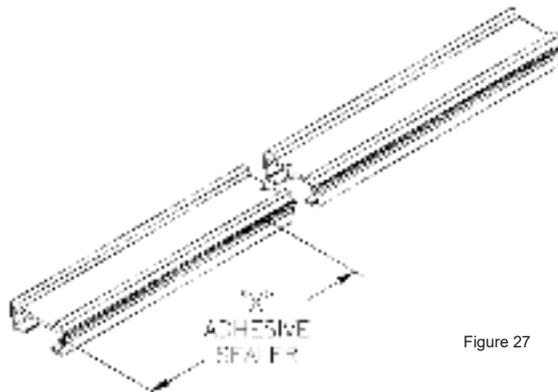
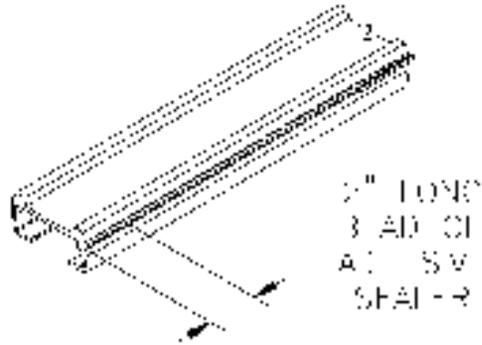
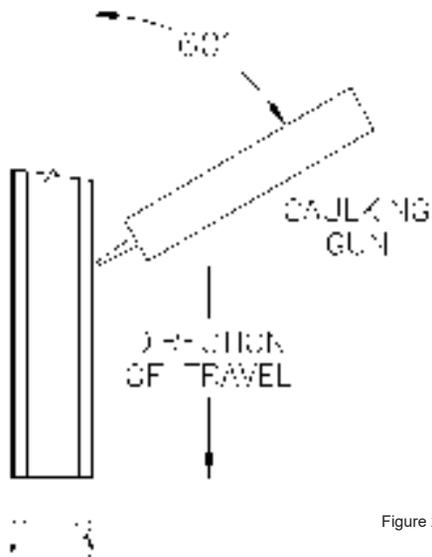

Figure 27
Figure 28
Figure 29
- d. Apply a 1/8" diameter bead of SikaFlex 221 adhesive sealer into the exposed seal groove (Figure 27). The bead should be from the end of the seal to the end of the slat. If using the polyethylene seal (blue) the bead should be 2" long (Figure 28). Hold the caulking gun at a 60° angle to the floor slat (Figure 29). Push the bead, do not pull.